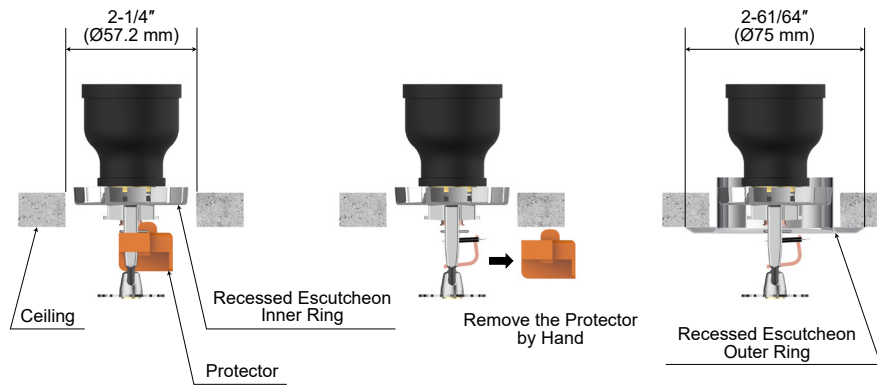
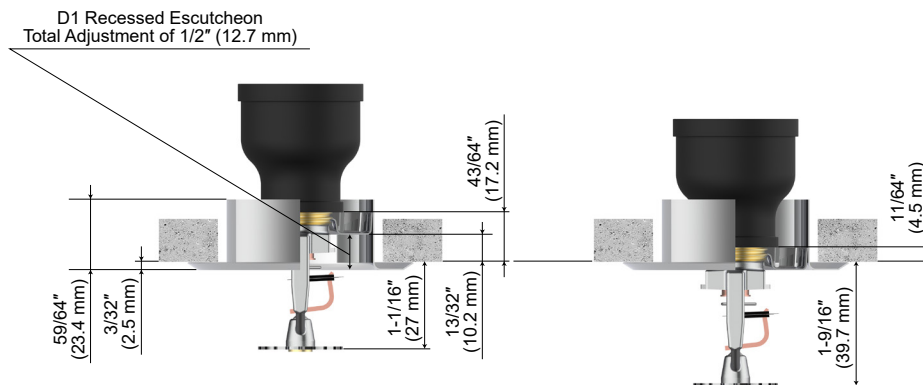

Figure 6: Protector Removal
Figure 7: Installation (Recessed Escutcheon)
Step 4: Remove the Protector by hand. (Ref. Figure 6) Slide on the Outer Ring of the D1 or D3 Recessed Escutcheon over the Sprinkler and push the Outer Ring over the Inner Ring until its flange comes in contact with the ceiling. (Ref. Figure 7)